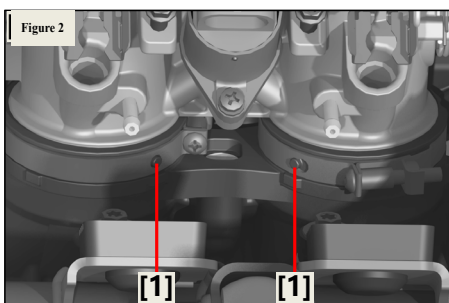

Figure 2
- Remove the hose [2] connecting the tipping valve to the fuel tank shown in Figure 2
- Remove the harness clamp [1] shown in Figure 2
- Remove the throttle cable [1] shown in Figure 2
- Install each clamp on the intake pipe as shown in Figure 2, with the screw head facing to the right, and align the clamp bore with the intake pipe convex point [1].